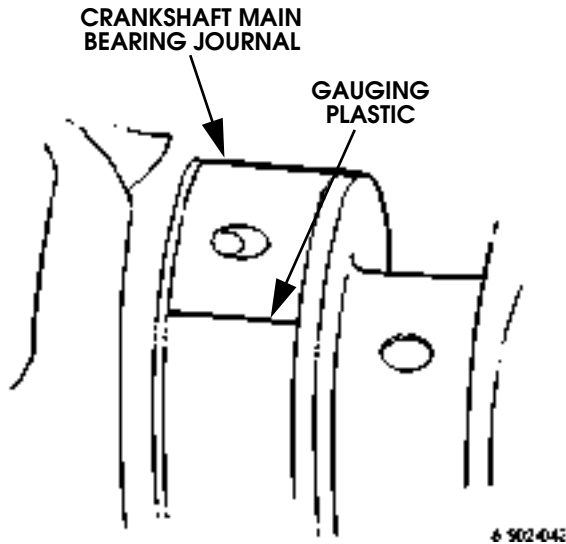

Figure 2-155: Gauging Plastic Position on Crankshaft Main journal
6. Position length of plastigauge on each main bearing journal (Figure 2-155). Cut plastigauge so it extends across three quarters of journal. Position plastigauge so it is parallel to crankshaft center line as shown.